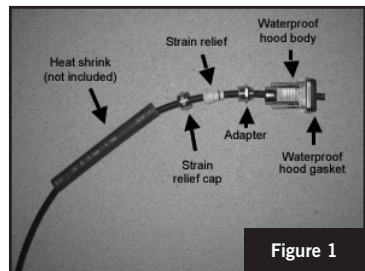

Figure 1
- Slide D-sub waterproof hood assembly over end of cable. (See figure 1)